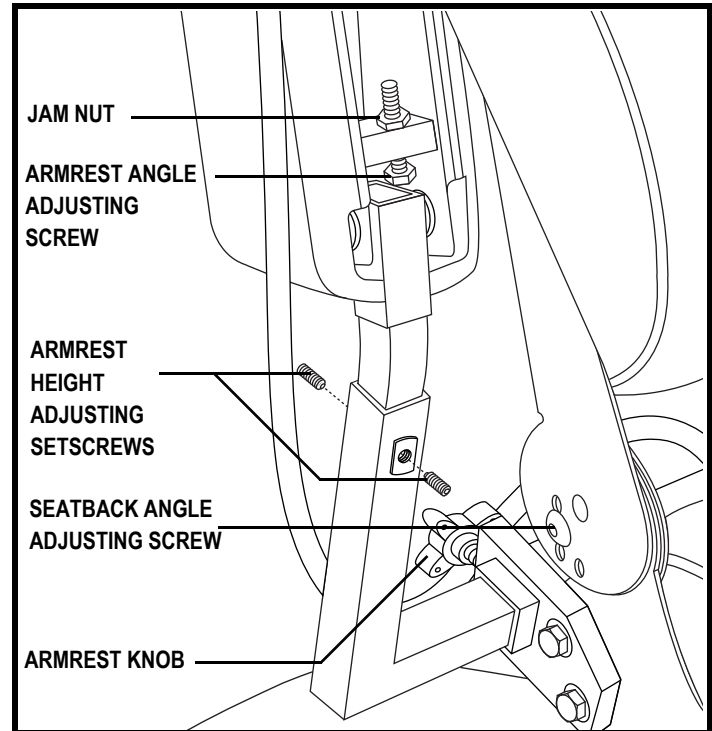

Figure 17. Seatback/Armrest Adjustment
1. Remove the adjusting screws from each seat hinge. See figure 17.
1. Locate the two armrest knobs on each side of the armrest receiver bracket. See figure 17.
1. Lift the armrest straight up so that it is perpendicular to the floor. See figure 17.
1. Loosen the two setscrews located on the armrest receiver. See figure 17.